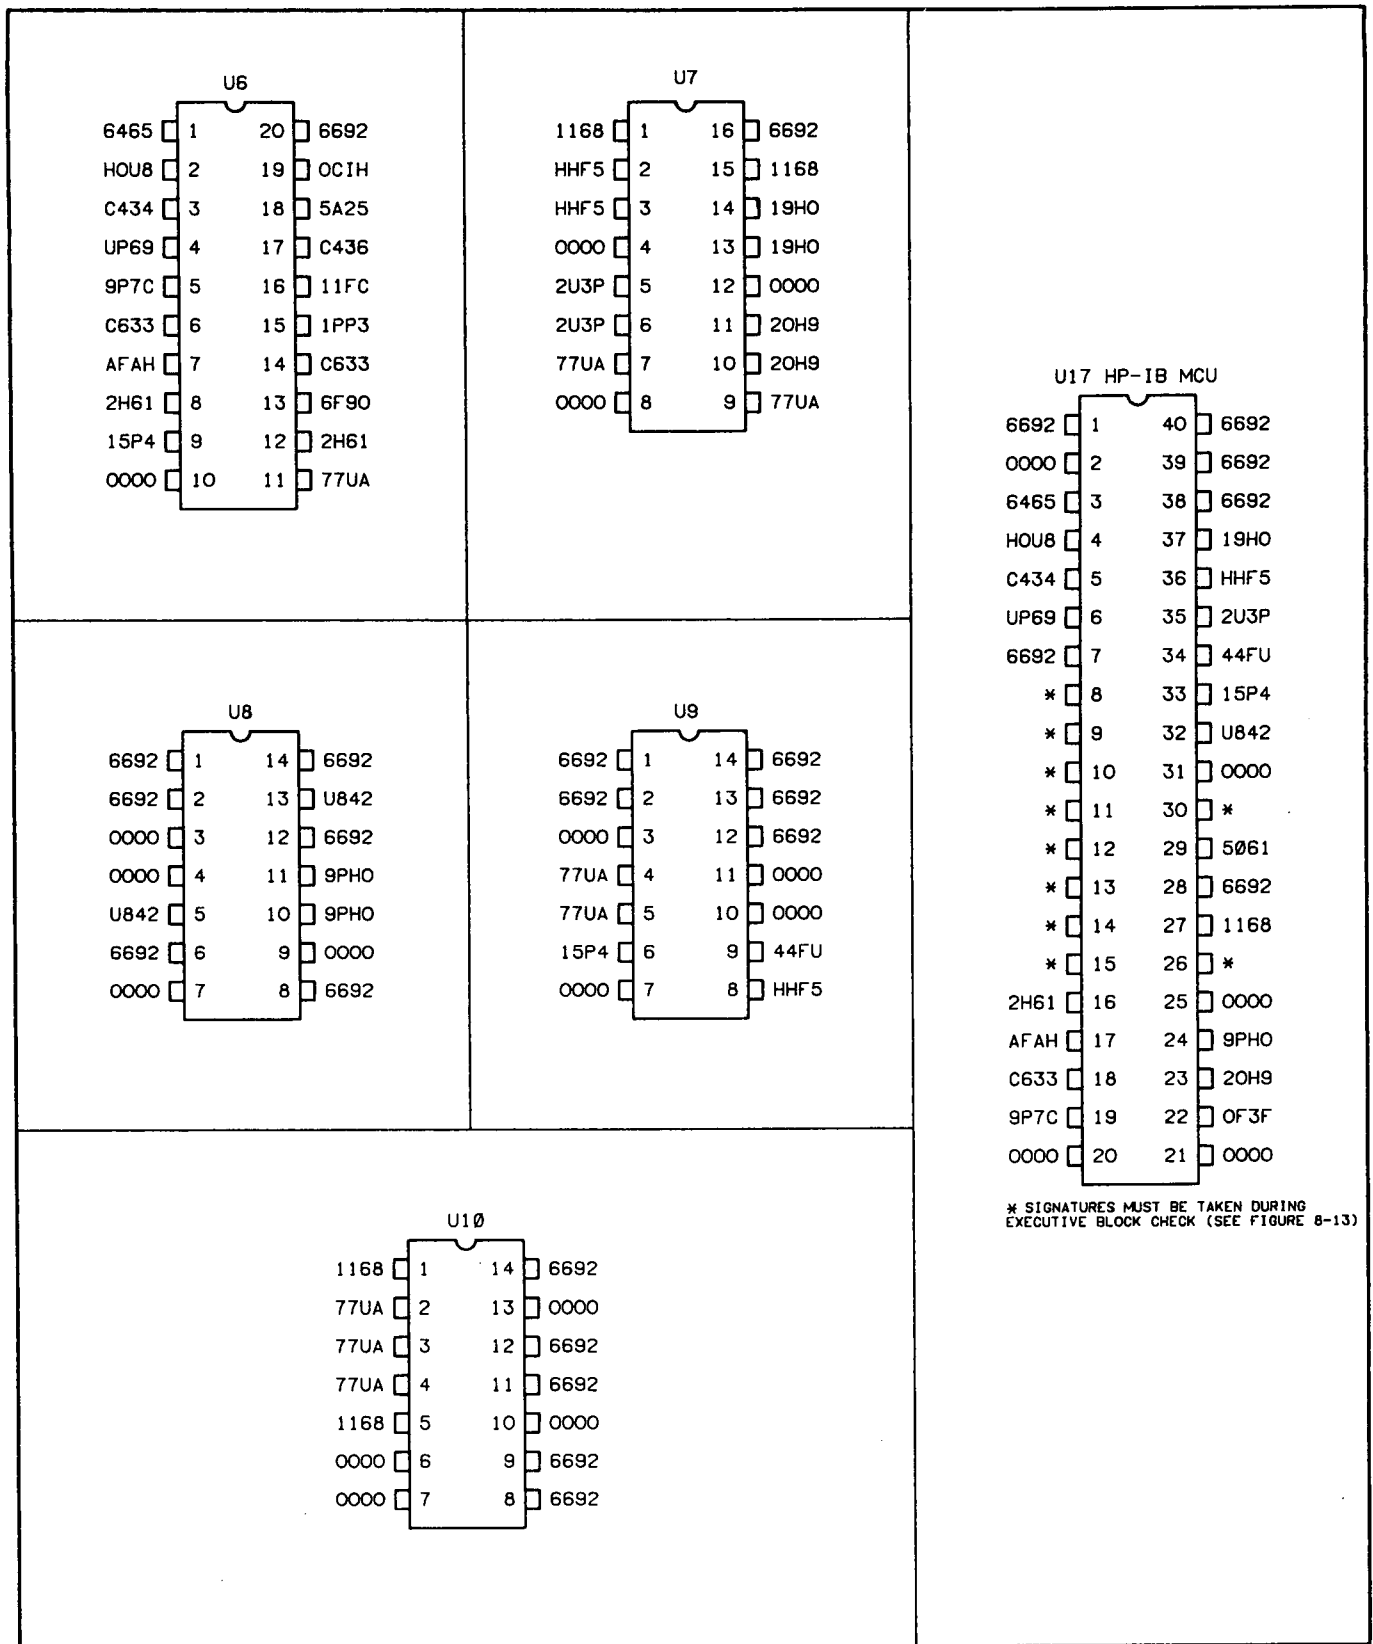

Figure 8-14. HP-IB Block Signatures
3. Take signatures. Signatures should match those shown in *Figure 8-14*.